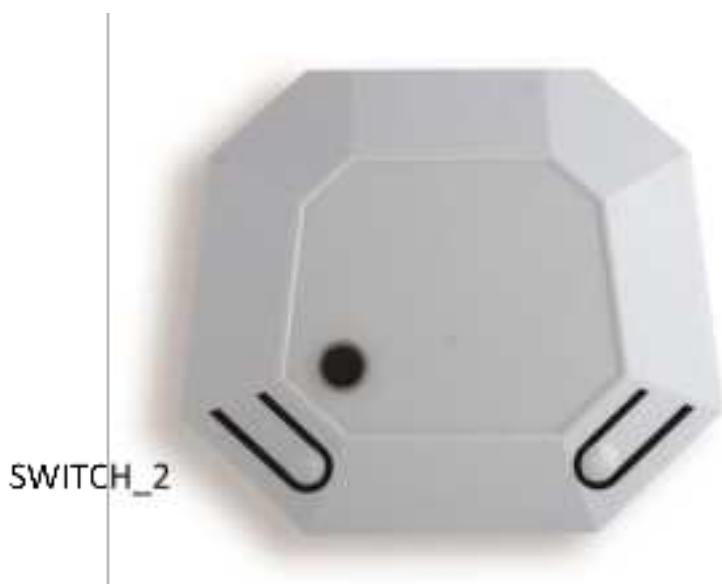

Figure 13: C209 with cover and SWITCH\_2 marked
The bootloader needs to be manually set in the software “upload” mode by pressing the SW2 button (see Figure 13) on the C209 while resetting the board.
As can be seen in the angle calculation events shown above, the beacon is moving from one side of the anchor to the other, as the azimuth angle, given as the third parameter in the command (shown in bold), moves from a positive value (20) to a negative value (-10). The geometric relationships of these azimuth values are represented in the scientific diagram shown in Figure 13.